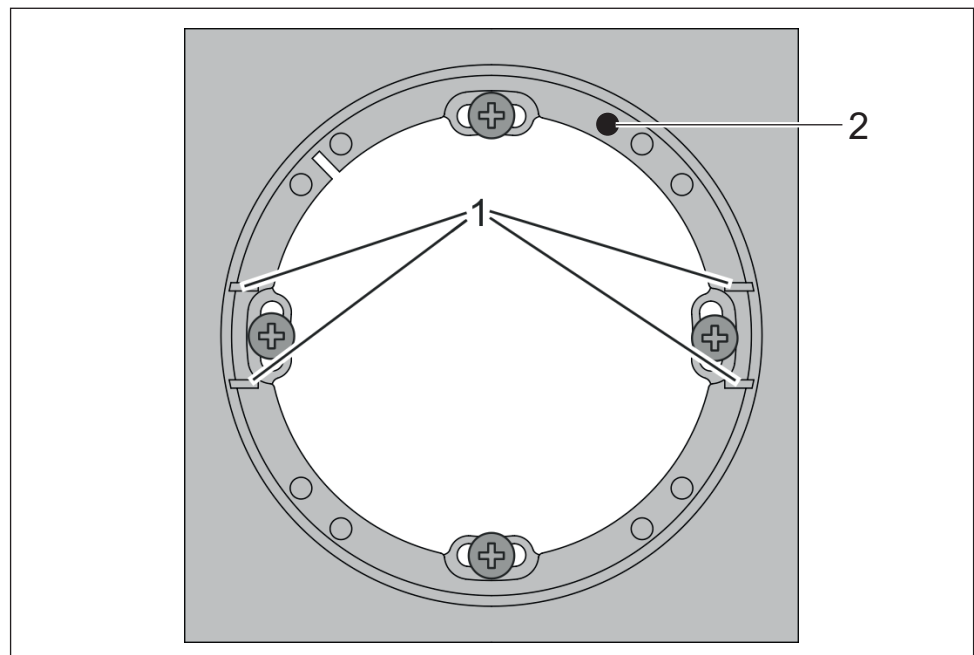

Fig. 12: Frame, WRU 200 reader
2. Screw the frame of the reader to the pre-installed switch box. Ensure that the retaining rails for the reader are on the right and left (Fig. 12/1) and the black mark (Fig. 12/2) is at the top.